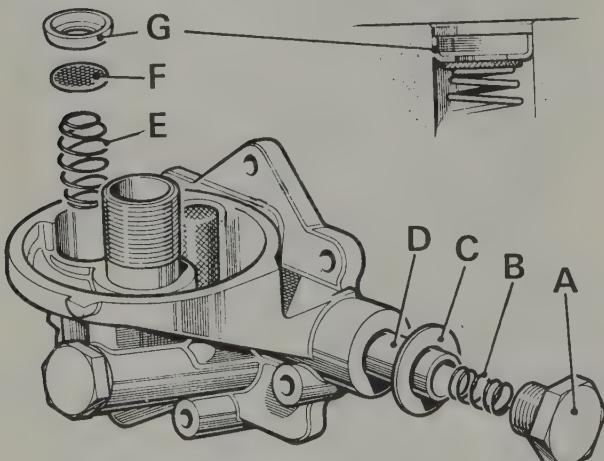

Fig. 1.38. Oil pump cover detail
- 4 Dismantle the pressure relief valve and inspect it for excessive wear and/or scoring. (Fig. 1.38).
- 6 Thoroughly clean the gauze filter housed within the relief valve bore. (Fig. 1.38).